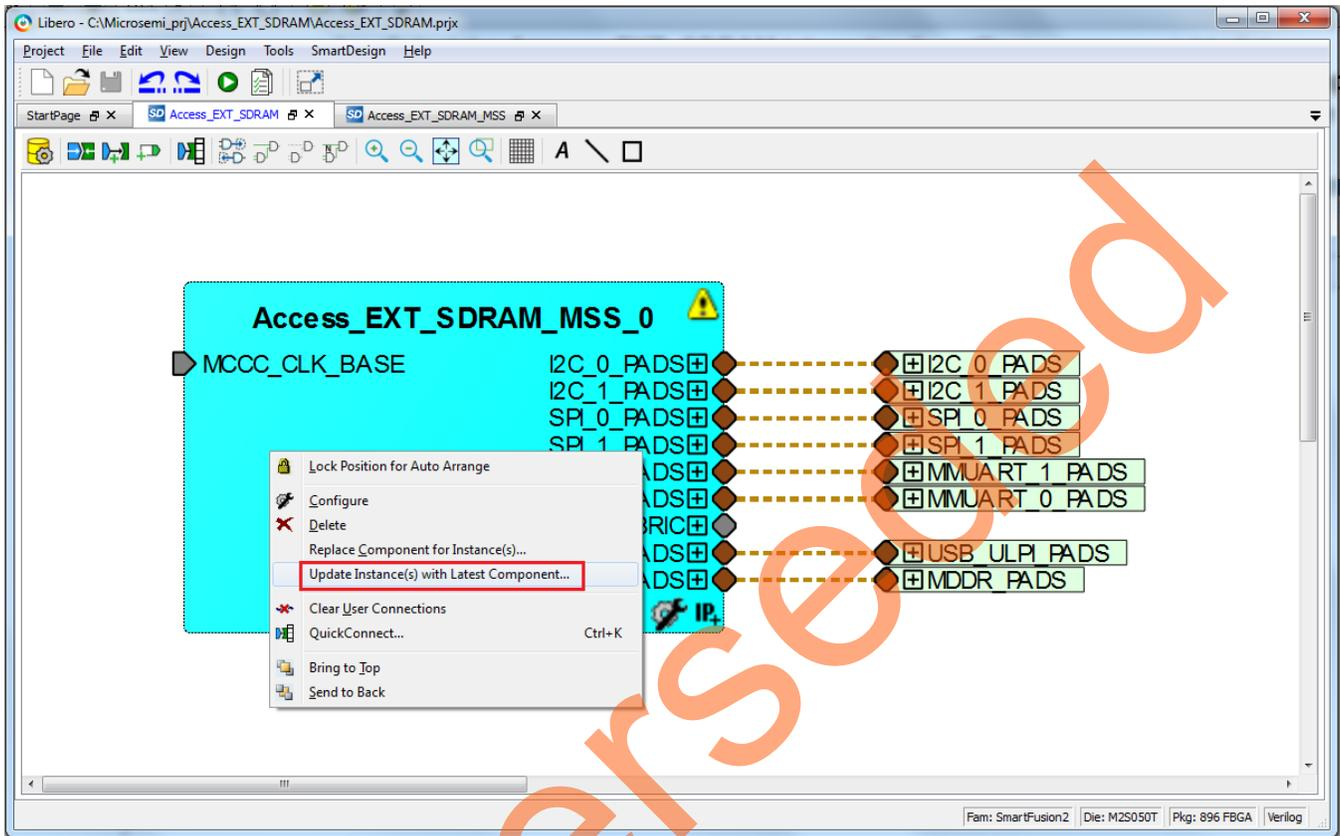

Figure 14. Updating the MSS
1. Select the **Access_EXT_SDRAM** tab on the SmartDesign canvas, right-click **Access_EXT_SDRAM_MSS_0** and select **Update Instance(s) with Latest Component**, as shown in Figure 14.